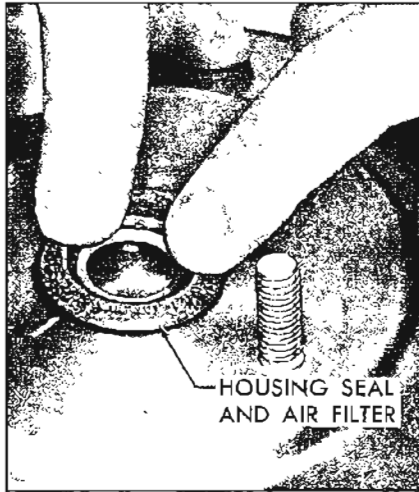

Figure 9-31—Installing Housing Seal and Air Filter
2. Install a new housing seal on the housing seal retainer, lubricate the seal thoroughly both inside and outside and install it in the housing bore. Install a new air filter in the housing bore (Figure 9-31).